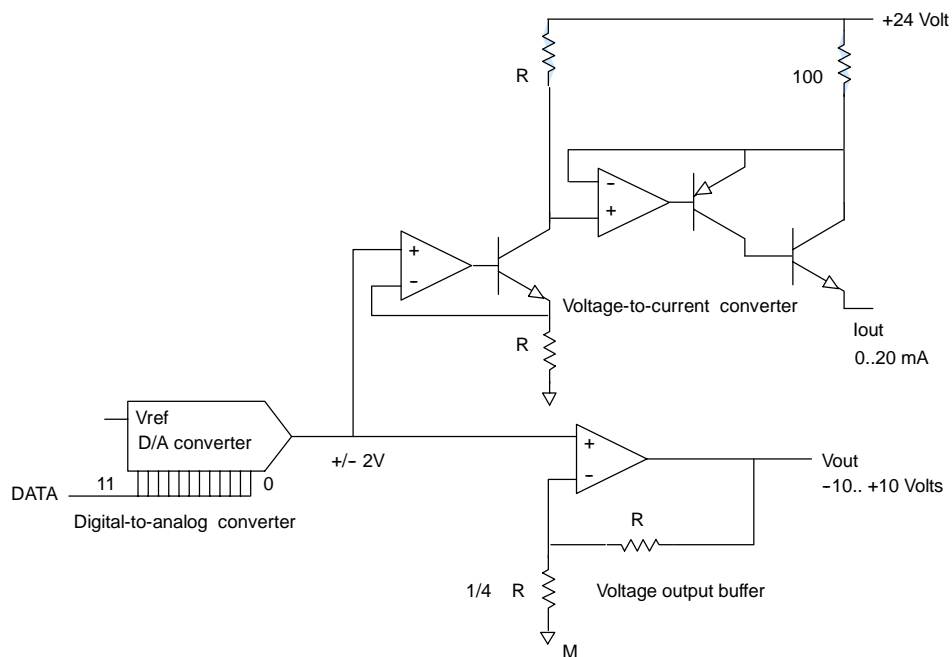

Figure A-21 Output Block Diagram for the EM 232 and EM 235
- ☐ Short the inputs for any unused channels, as shown in Figure A-21.